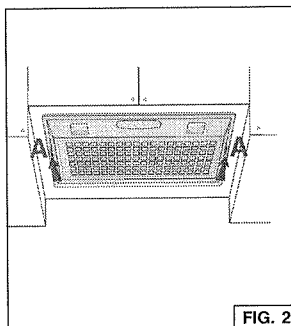

FIG. 2
1. Remove the grid by moving the 2 slide fasteners "A" forward (Fig. 2).